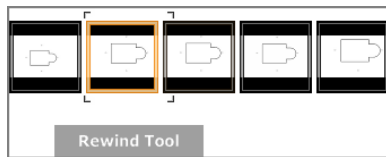

FIGURE 1.38: Because Revit doesn't include zoom commands in the Undo function, you can rewind to find previous views.
3. Click and hold Rewind in the steering wheel. You can now find an older view, as shown in Figure 1.38.